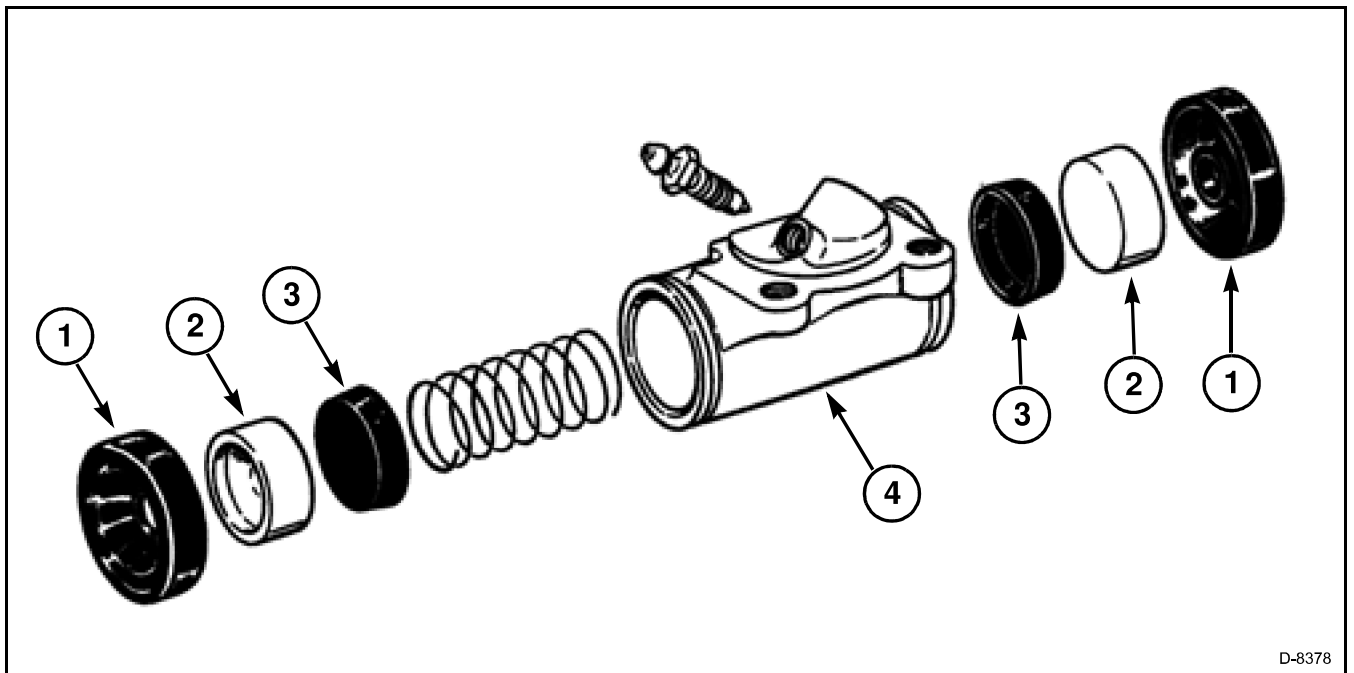

FIG. 3
FIG. 3: In the drum brake system, each wheel cylinder (4) contains two pistons (2). One piston (2) at either end, which push outward in opposite directions. This forces the brake shoe into contact with the drum. All pistons have a seal (3) to stop fluid leakage. A rubber dust boot (1) seals the outer end of the cylinder against dust and dirt.